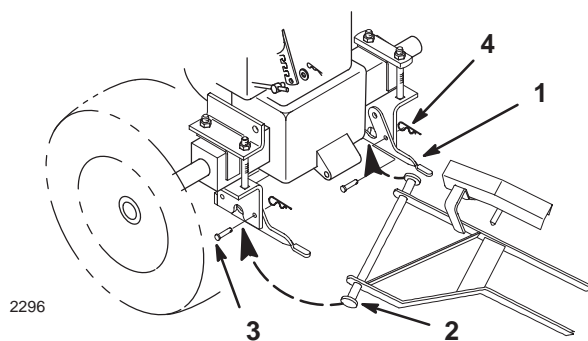

Figure 15
2. Position tiller behind and under rear tractor hitch with idler pulley bracket above right latch lever. Lift latch levers and install mounting rod. Center tiller between hitch latches (Fig. 15).
3. With latch levers closed, secure with clevis pins and hairpin cotters (Fig. 15).